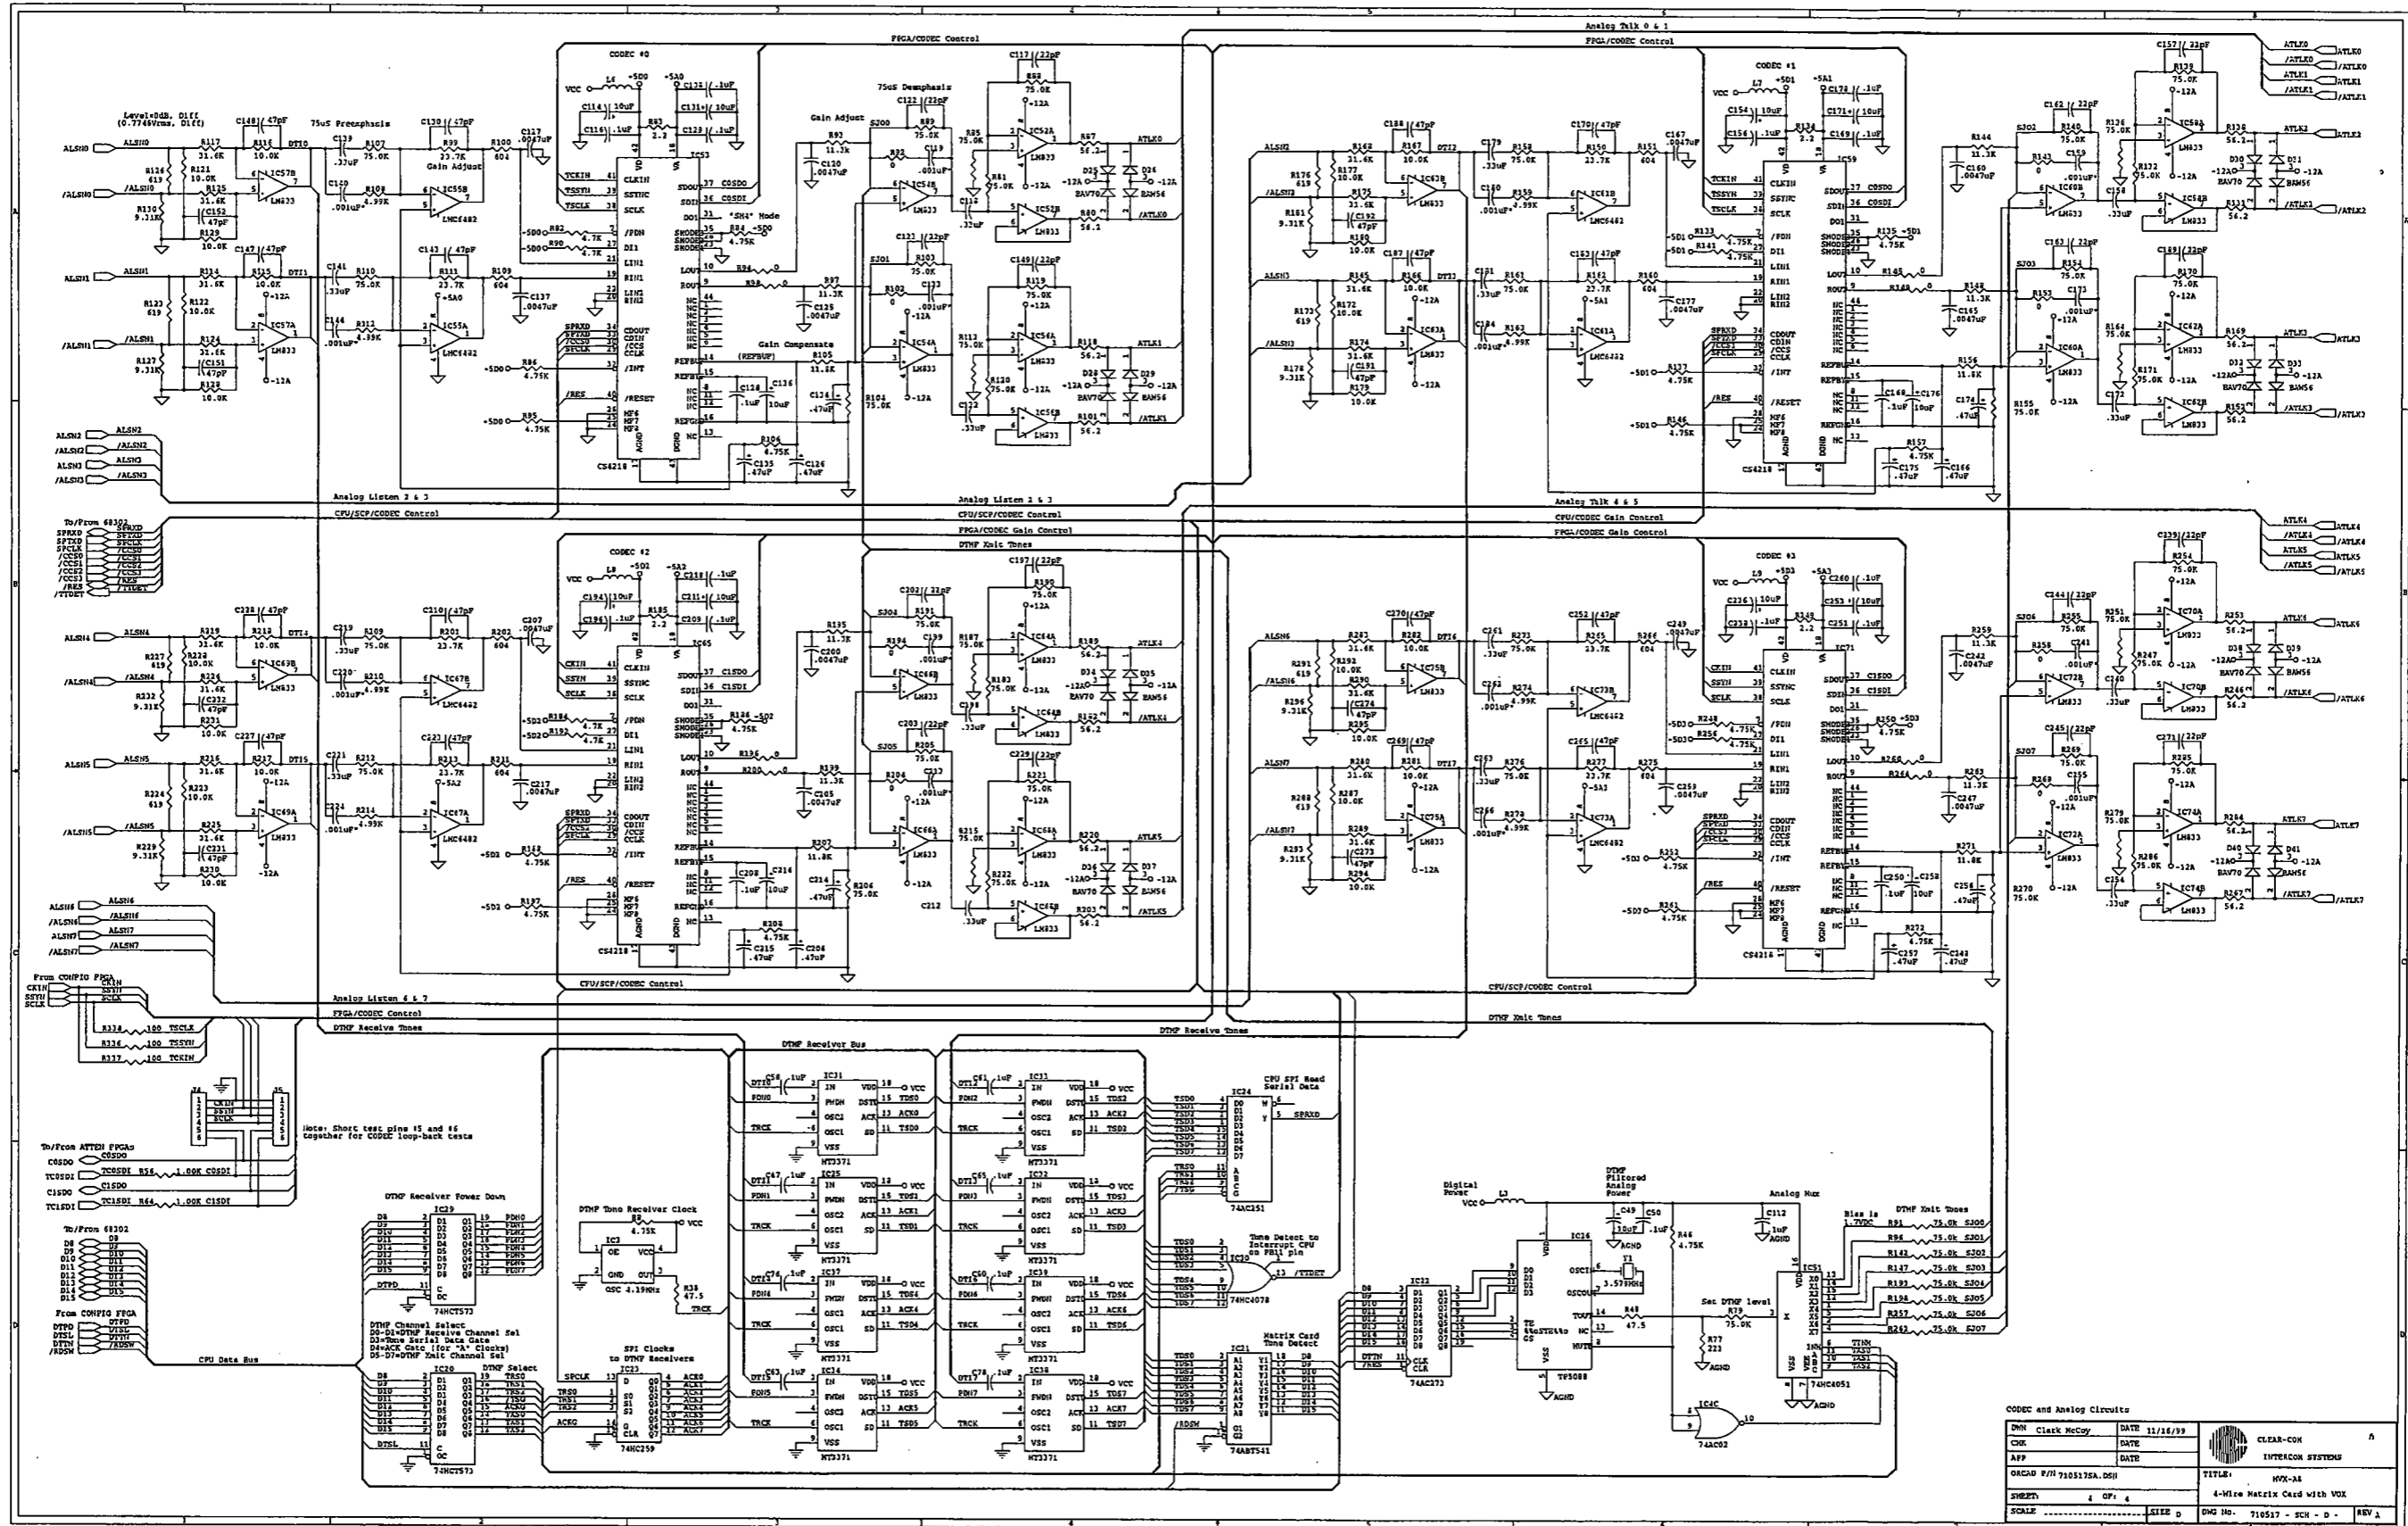

FIGURE M1-6: Schematic—MVX-A8/L8 PCB Sheet 4, Rev. A
- Sheet 4 (Figure M1-6 on page M1-13) contains the digital 2-wire line drivers and the DSP for code and rate conversion.